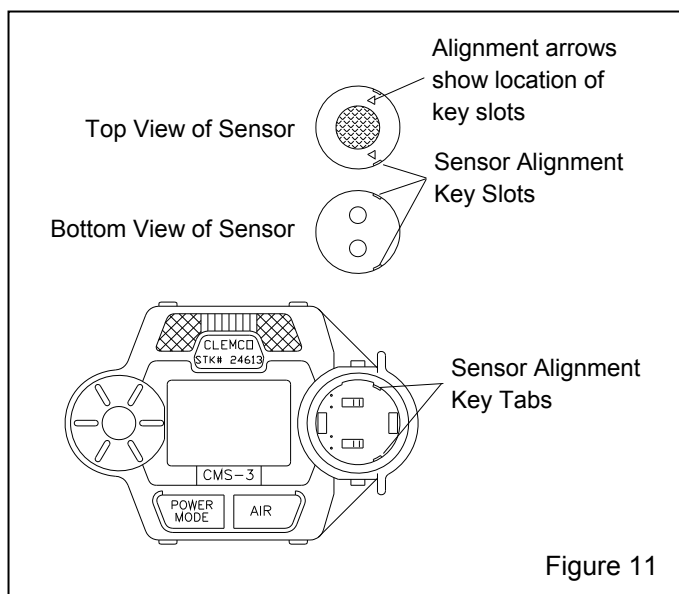

Figure 11
inserted in the socket one way. Note the orientation of the old sensor, as shown in Figure 11 before removing it.
5.2.5 Carefully insert the replacement sensor in the socket. Make sure the sensor face with the colored ring is facing up, and that the sensor key slots are properly aligned with the key tabs in the socket as shown in Figure 11, before inserting.